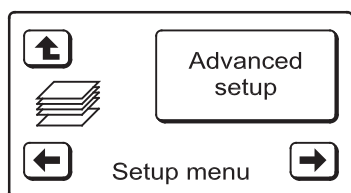

FIG. 63
2. Press the **LEFT** (←) button twice to display the screen shown in Figure 63.